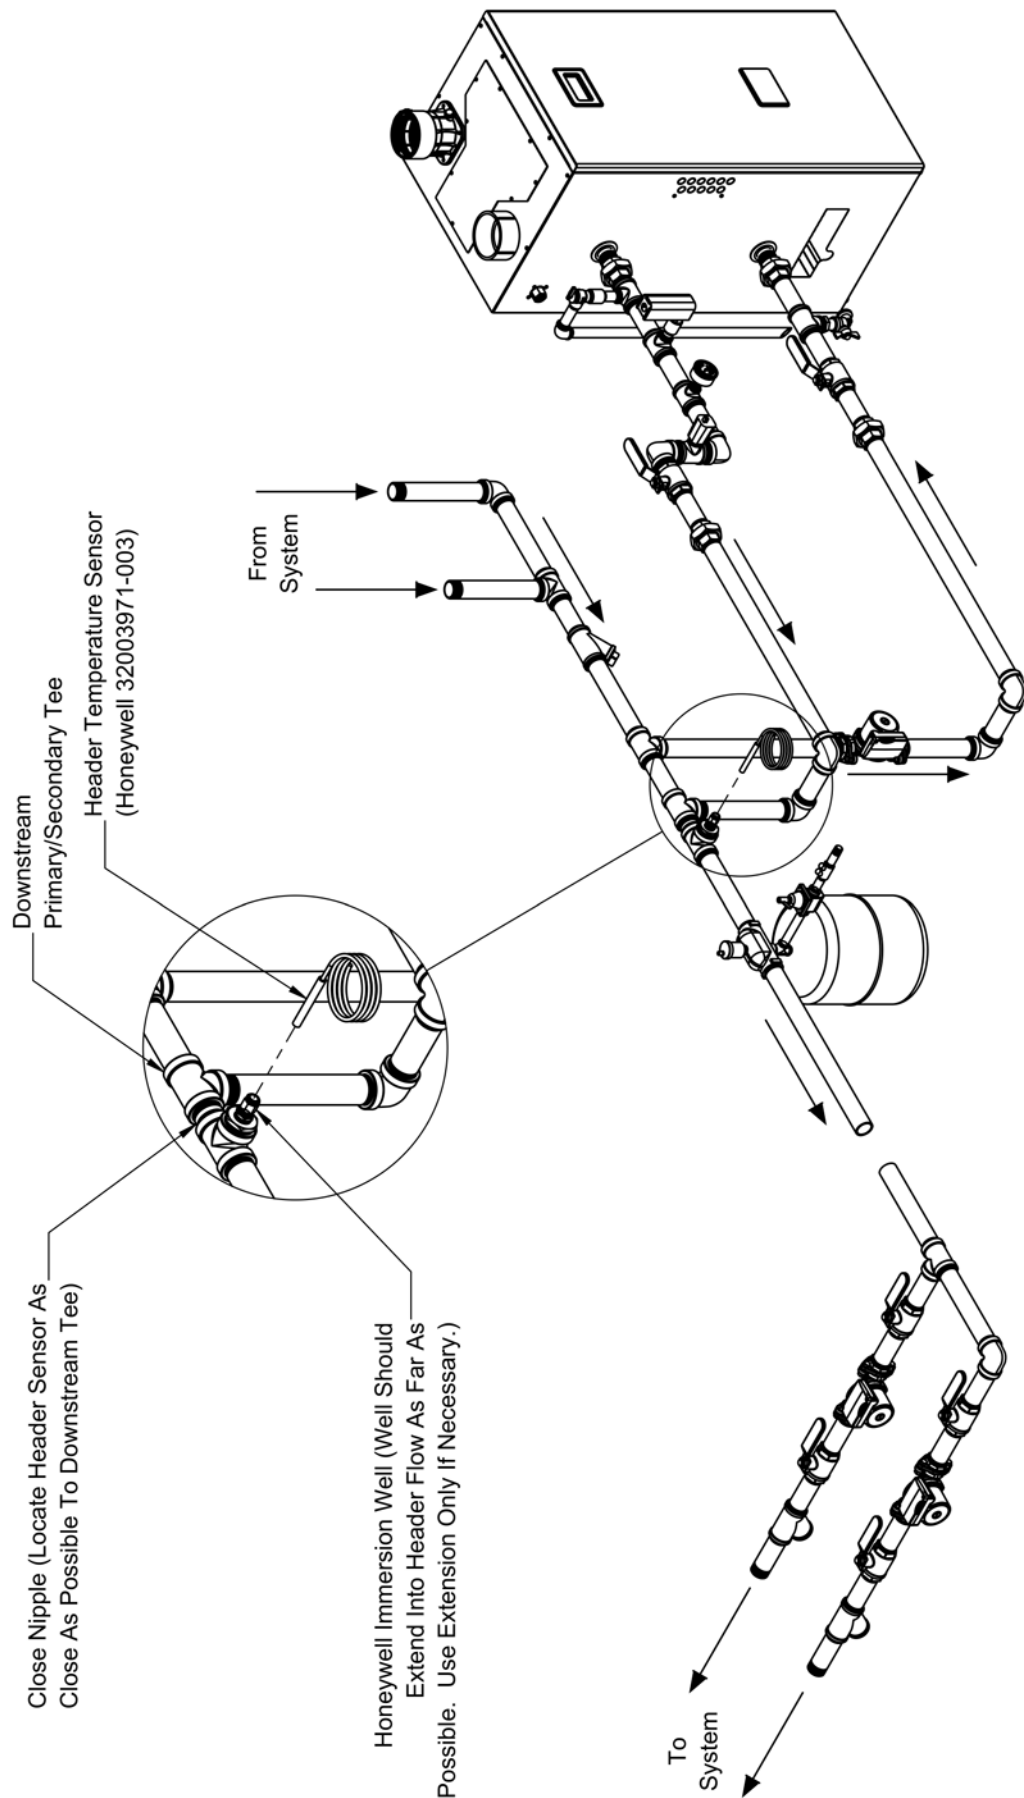

Figure 10.4: Proper Installation of Header Sensor
- e. Header Sensor - When this sensor is installed and enabled, the boiler will attempt to maintain the target water temperature in the header rather than in the supply. Where the system flow rate varies widely, the use of a header sensor allows the temperature of the water being sent to the radiation to be more accurately controlled. Use sensor P/N 103104-01 (Honeywell 32003971-003) with 1/2" NPT immersion well, P/N 80160456. Installation of this sensor in a well, as opposed to on the surface of the header, is highly recommended. Alternatively use 1/2" NPT direct immersion sensor, P/N 101935-01. Locate this sensor immediately downstream of the second primary-secondary Tee (Figure 10.4). The sensor wiring should be routed away from sources of electrical noise. Where it is impossible to avoid such noise sources, wire the sensor using a 2 conductor, UL Type CM, AWM Style 2092, 300Volt 60°C shielded cable. Connect one end of the shielding on this cable to ground. See Section XII “Operation” for information on enabling the header sensor.